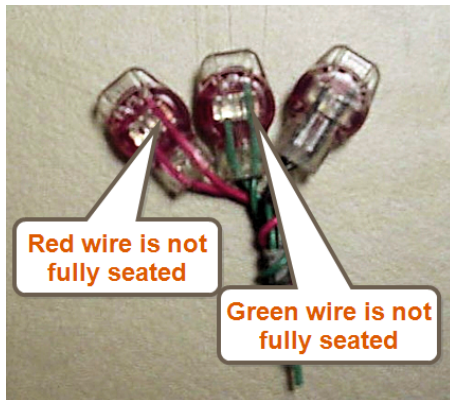

Figure 39 – Improper Connections
7. Check to ensure the wires are still fully seated before crimping the connector. Figure 39 illustrates improper connections due to wires not fully seated.